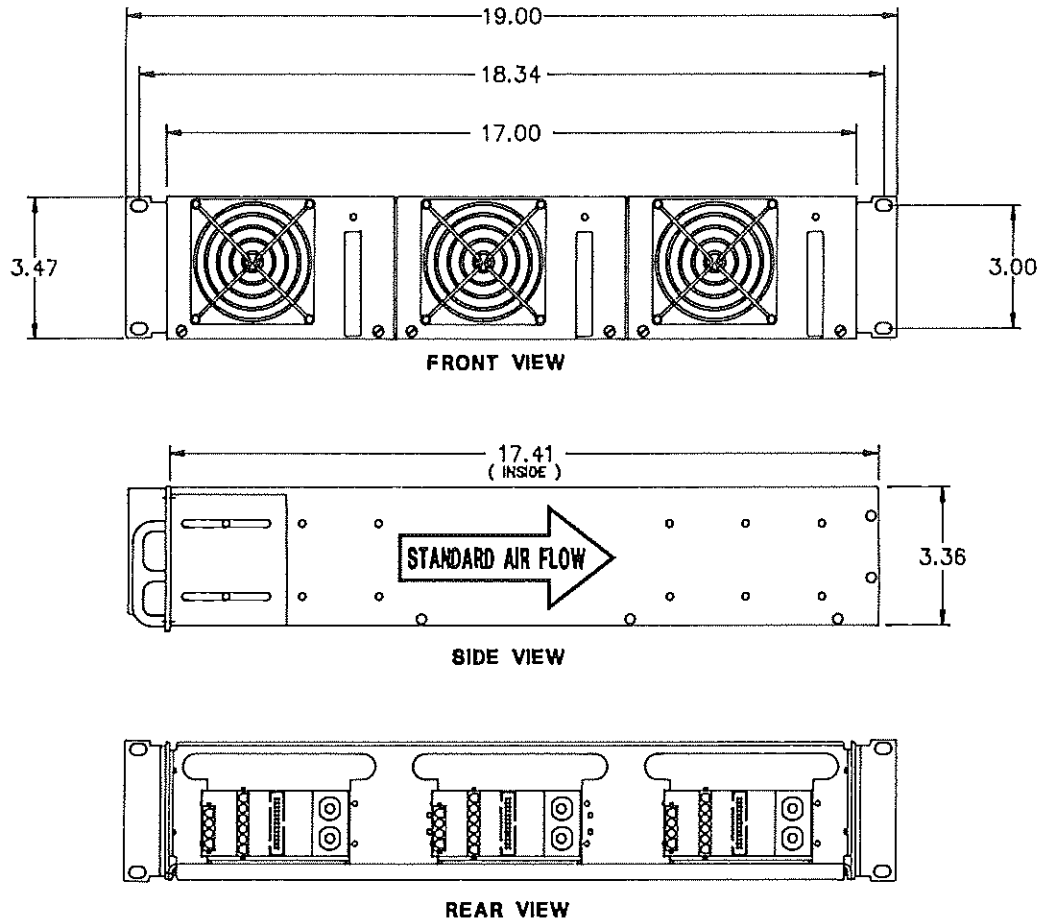

Figure 4. TP Series Front, Side and Rear Views
- 6.1 Front, side and rear views of the TP Series case are shown in Fig. 4. Each hot-plug power module has its input, outputs and control and supervisory signals brought out separately to the backplane.